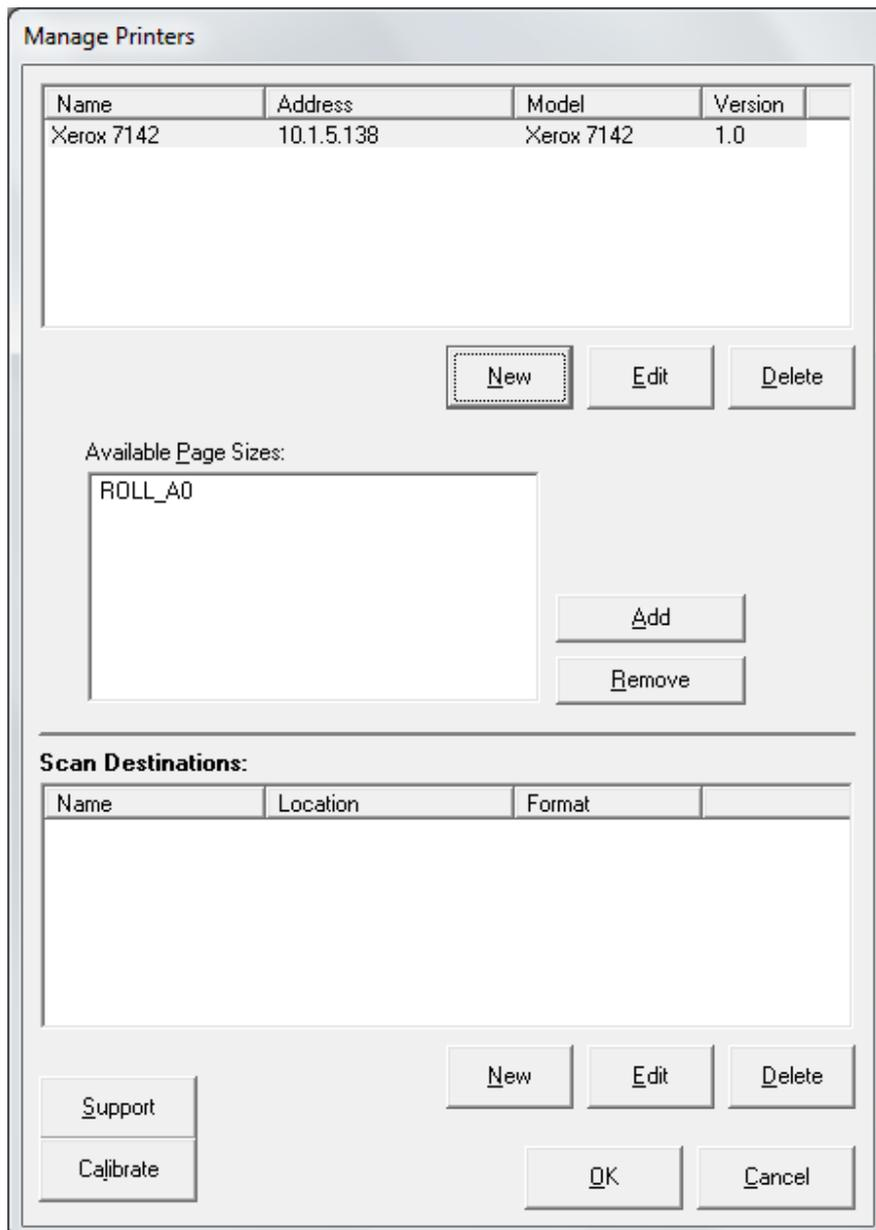

Fig 3-4
- In the Add Printer window, click [OK] to return to the Manage Printers window, which will now display the installed 7142 printer and ROLL_A0 as shown below in Fig 3-4: